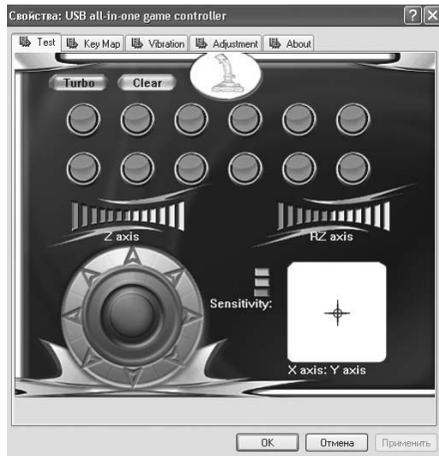

Fig. 5
- Press Properties button in order to test functioning of all features and control elements of the device. Properties: USB all-in-one game controller window will open up with the first tab Test (see Fig. 5).
- Turbo function. Click Turbo on your PC interface (Fig. 5), the word Turbo will illuminate. Click the corresponding numerical button that you want to set up with Turbo function, and the outline border of this button will become white. If you press the button on the joystick, the corresponding button on the PC interface will light up. Turbo function setup is finished. To cancel this setup press Clear button.
- Fluctuating. Turn the joystick handle ④ forward, backward, left and right by pressing D-Pad ①, and the corresponding block of the X/Y axis will shift simultaneously. The cross sign in the X axis; Y axis field will shift according to the position of the joystick handle.
- Hand throttle control. Shift the hand throttle control ⑥ to the left or right, the corresponding block of Z axis will shift simultaneously. Z axis scale will gradually fill with green color.
- D-Pad. Revolve the D-pad ① in different directions to test 8-way direction inputs, which will be displayed in an 8-arrow circle located in the bottom left corner of the PC interface (Fig. 5).